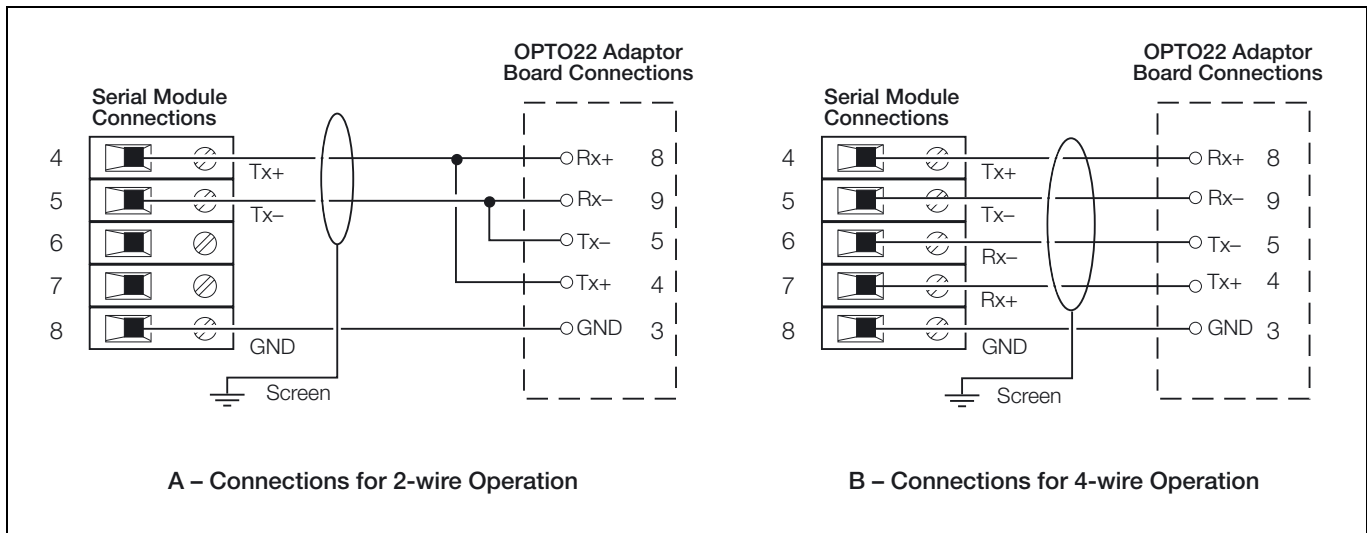

Fig. 2.4 Serial Module Connections
2.6 Serial Connections – Fig. 2.4
Make serial data connections as shown in Fig. 2.4. The type of cable used is dependent on the cable length: